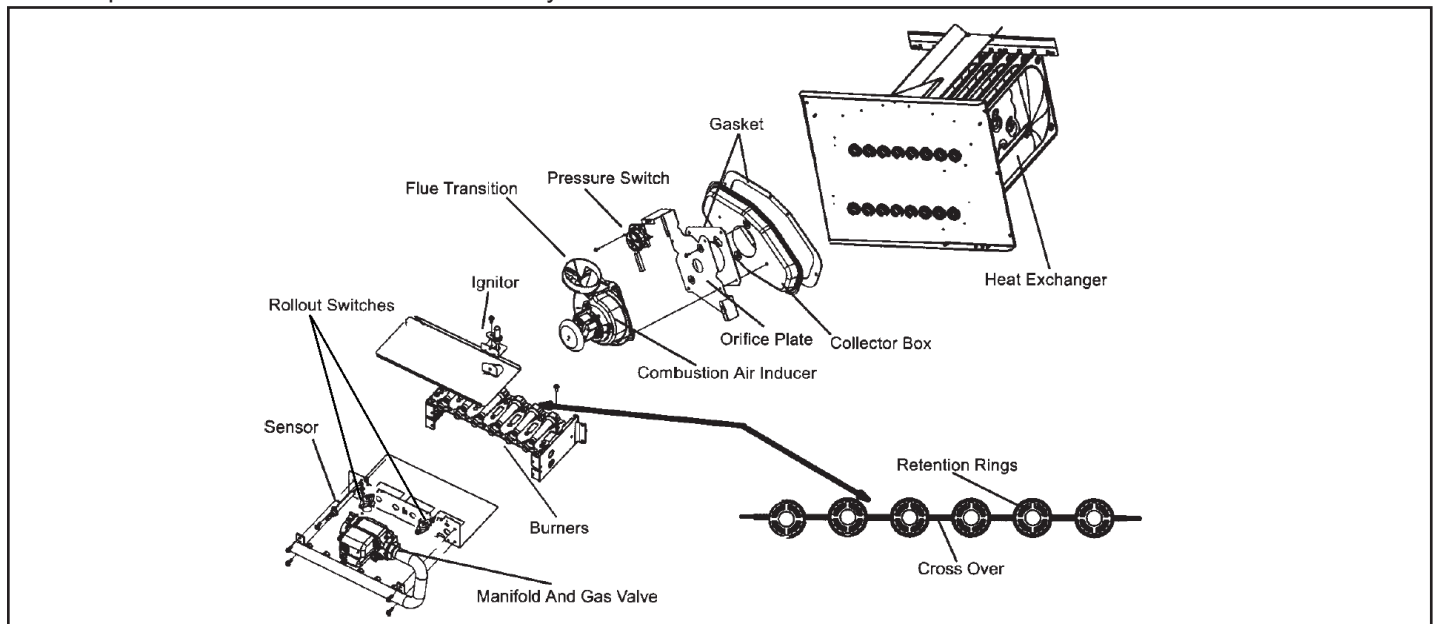

Figure 34. Burner, Combustion Air Inducer Assembly & Heat Exchanger Removal
12. To clean burners, run a vacuum cleaner with a soft brush attachment over the face of burners. Visually inspect inside the burners and crossovers for any blockage caused by foreign matter. Remove any blockage. Figure 34 shows burner detail.